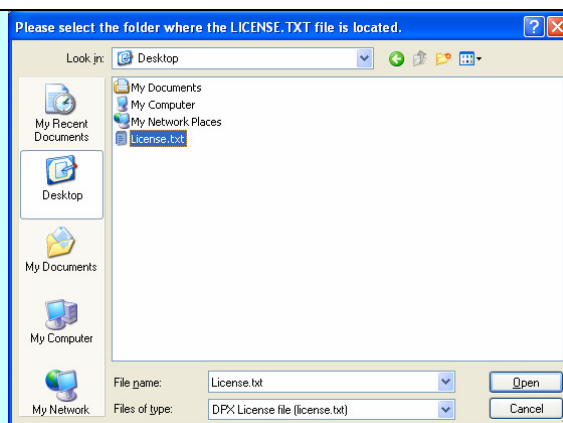

Figure 24 DPx licence Browse Window
- 2) Browse for the Text file that contains the Licence Code and click Open, as in Fig 24